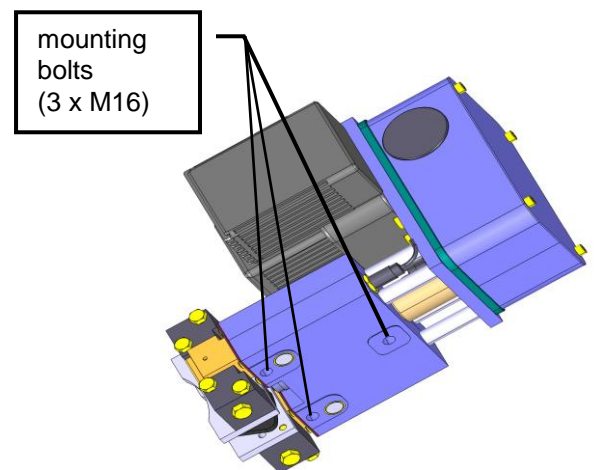

Fig. 5: Mounting of CB8-E
2. Put the brake on the sub-construction and mount the three fastening bolts (figure 5). Tighten the bolts only by hand in order to enable the brake to centre itself when closing.